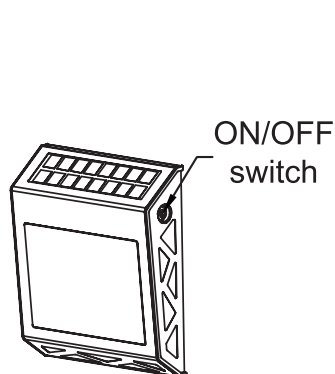

Figure 1
1. Press the on/off button to switch the light on. The switch is located at the side of the product. (Fig.1)